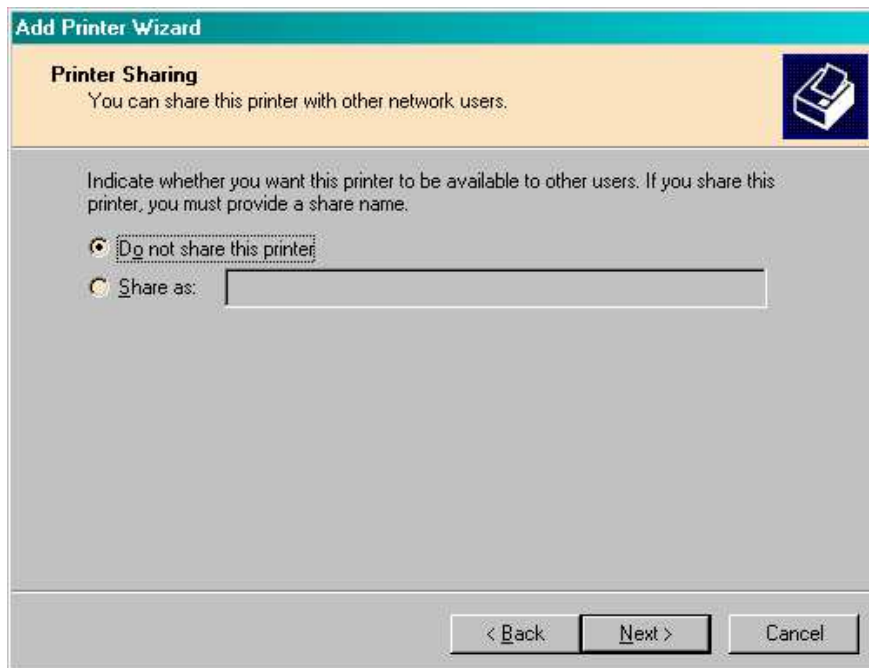

Figure 11
12. If your system has *Windows File and Printer Sharing* enabled, you may see the following dialog: (Figure 11)